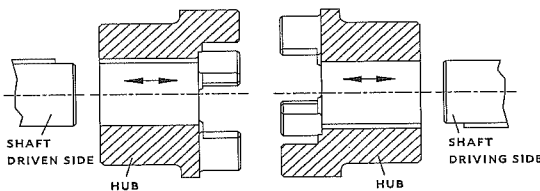

FIG 1: ASSEMBLY OF THE HUBS
- Mount the hubs on the shaft of driving and driven side (see FIG 1.).